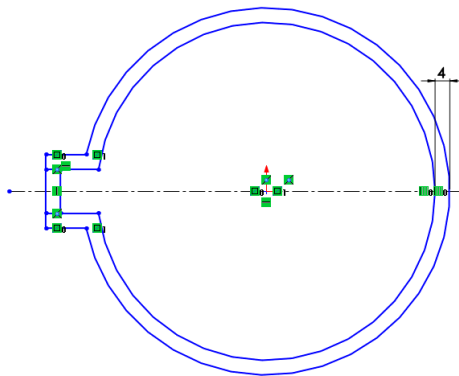

Figure 3-73 Sketch after extending the lines
- f. Complete the final editing of the sketch using the **Extend Entities** and **Trim Entities** tools, refer to Figures 3-73 and 3-74.
4. Similarly, extend the upper horizontal line of the inner sketch. The sketch after extending the lines is shown in Figure 3-73.